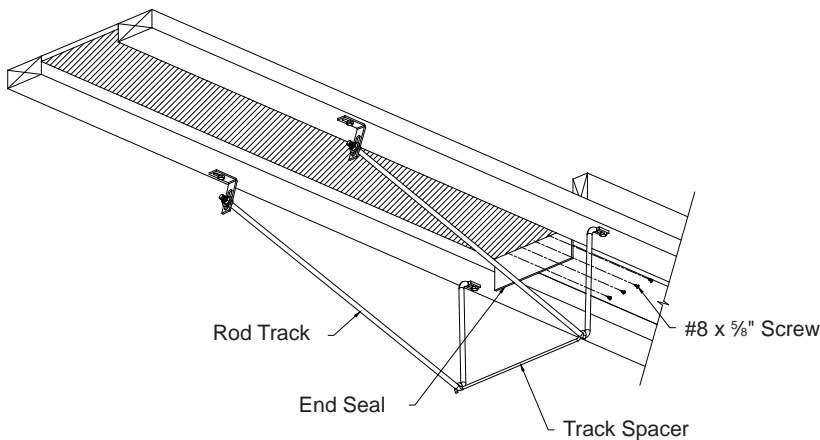

Figure 8C
Install the track spacer at the bottom of the vertically long end of the rod tracks. The tracks will need to be pushed in slightly in order to install the spacer. Use a pair of pliers to crimp the ends of the track spacers. **See Figure 8C & 8D.** Install the end seals to the insulation barriers at each end of the slot using (4) #8 x 5/8" screws in each end seal. The bottom edge of the seal should rest on top of the baffle door when it is in the close position. **See Figure 8C.**